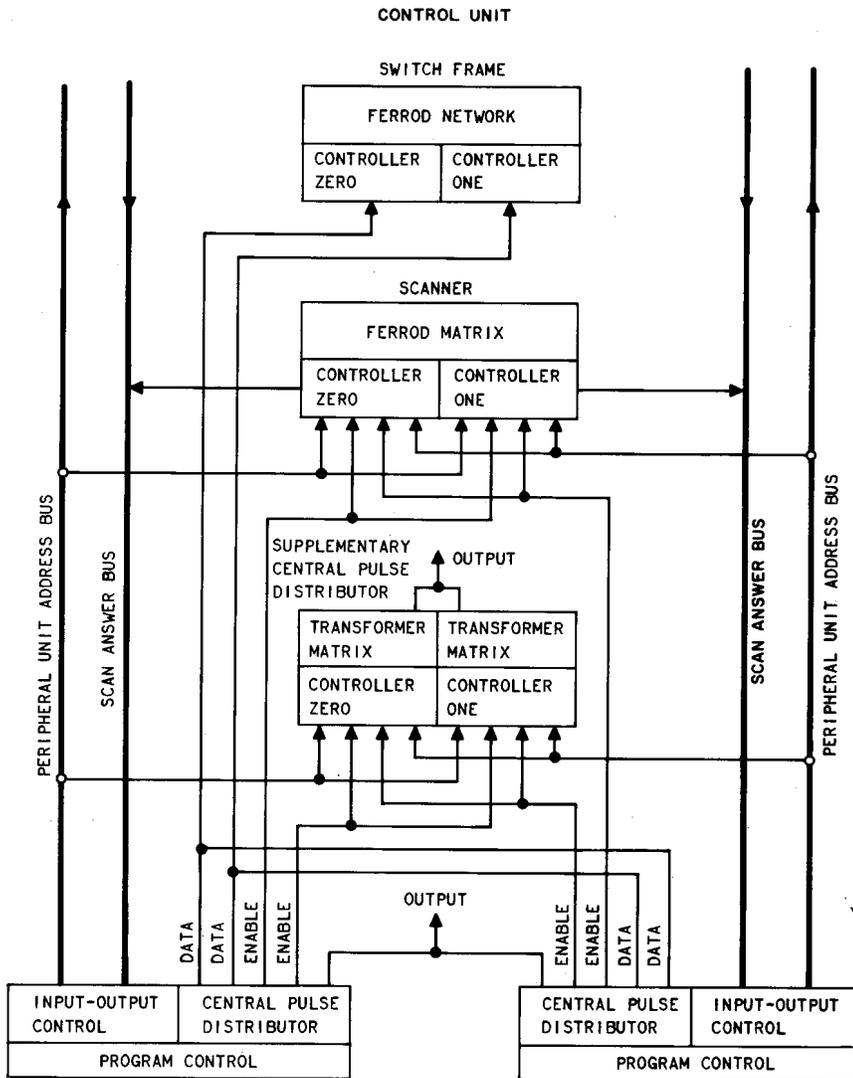

Fig. 3—SCPD Power Control—Block Diagram
1.04 Communication from a control unit (CU) to a controller (Fig. 3) is via the peripheral unit address bus (PUAB). CU 0 can communicate to either controller but only via PUAB 0; likewise, CU 1 can access either controller but only via PUAB 1. Since the power control circuit allows removal of power from the controller, PUAB cable receivers (CR), or both, through manual, automatic, or program means, it is important that the maintenance personnel understand the effect of this action on the system.